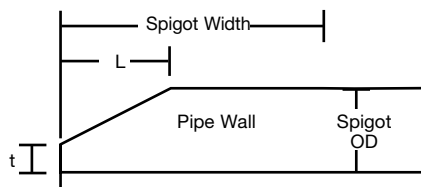

Figure 7-1 Pipe spigot and bevel dimensions definition for coupling joints
- 4** Clean the surface in the jointing area, sand smooth any rough spots and with a grinder bevel grind the pipe end to ease assembly (see **Figure 7-1**). No further grinding is necessary.